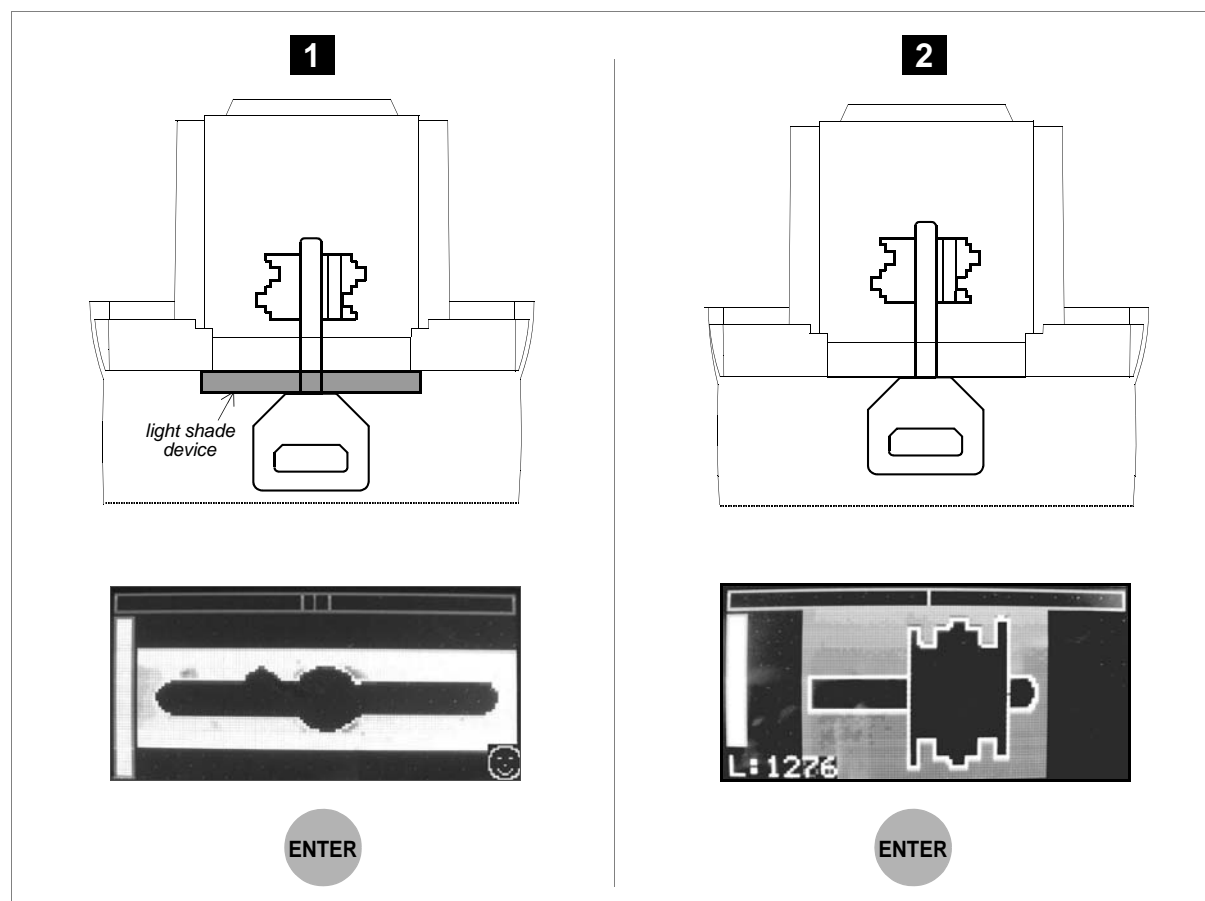

Fig. 30
- 2) Fit the key into the clamp **with the light shade device**; the display will show the profile (fig. 30 - 1).
- 5) Fit the key in again (without the light shade device) and press ENTER (fig. 30 - 2).